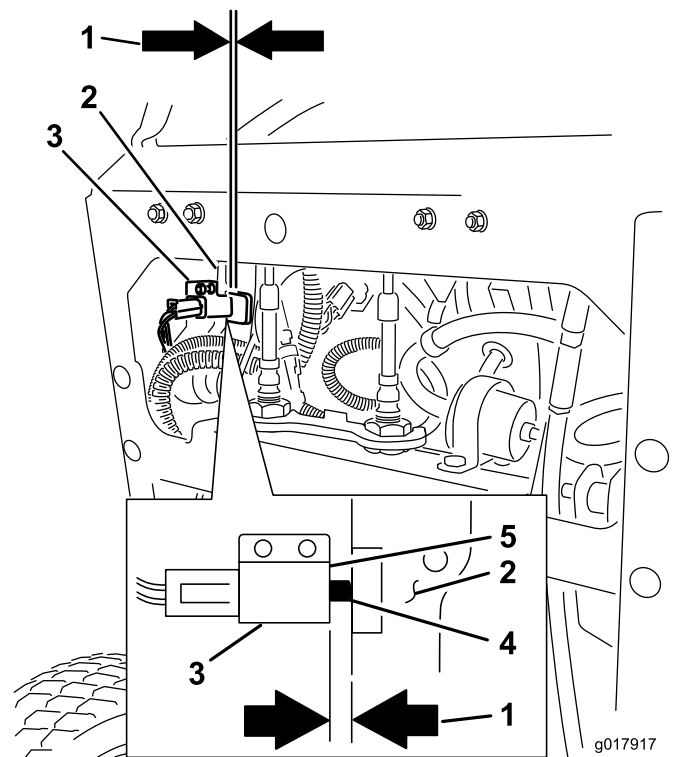

Figure 72
12. Check the gap between the brake lever and the face of the switch as shown in Figure 72. The gap needs to be an 1/8 inch (3mm) with the brake **engaged**.